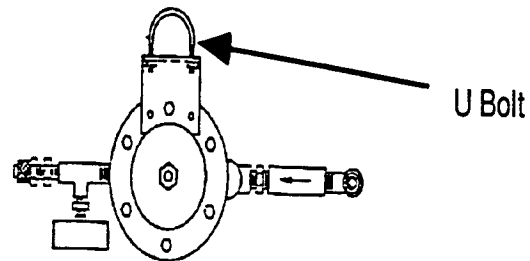

Figure 6: Installing the Solvent Valve
- 1) Attach the solvent valve under the air set, using the "U" bolt mounting. See Figure 6 (ref. drawing #80-0425).